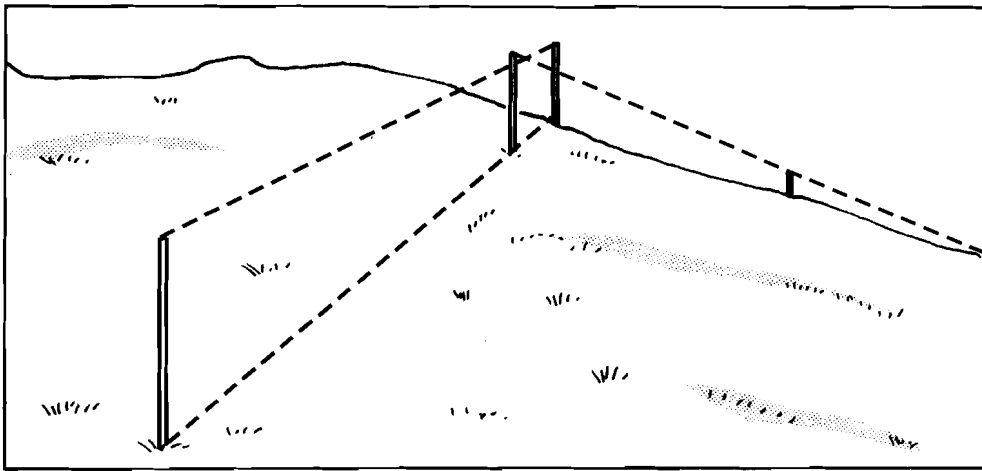
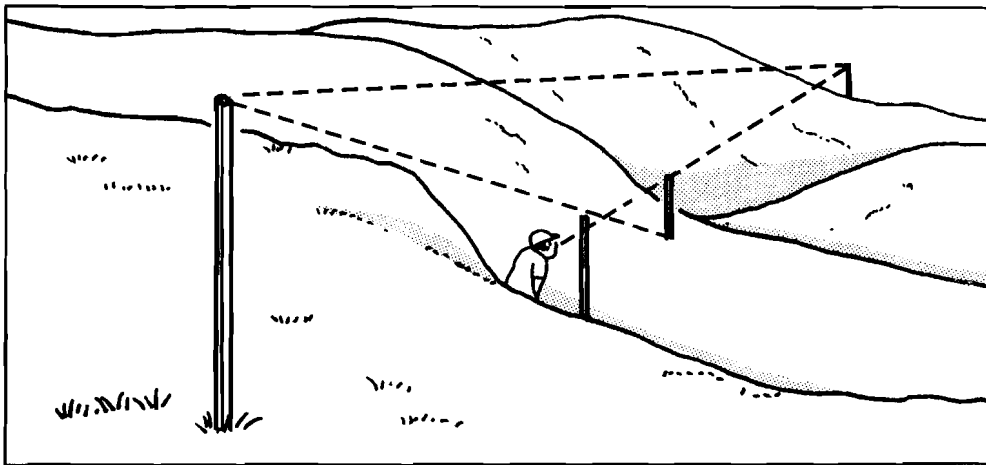
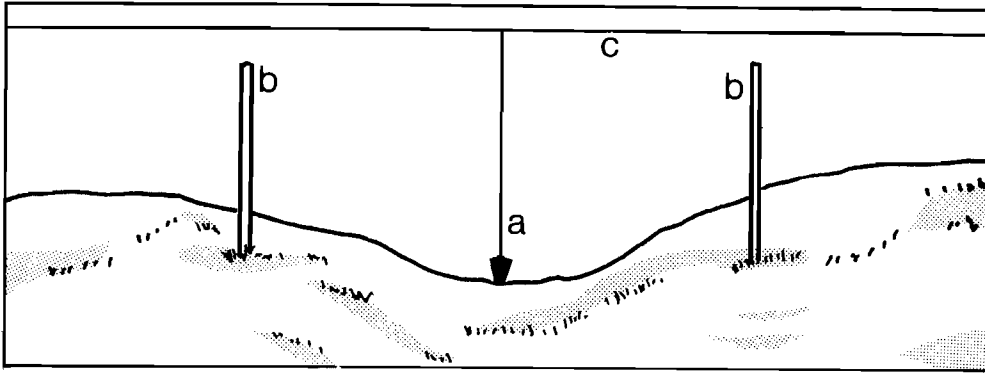

Fig. 16 Sighting a fenceline over rises.
Fig. 17 Sighting a fenceline through dips.
Fig. 20 Use of plumb bob for locating post position in dips: (a) plumb bob, (b) sighting pole, and (c) guide wire.
Rises or dips in the sighting line require the use of special techniques. For a rise, set two sighting poles about 3 m apart at the top of the rise, so that both can be seen from either end of the fence (Fig. 16). When crossing a dip, place two poles and align these by sighting from the highest point on both sides of the dip (Fig. 17).
5. Near the sighting poles in each dip, mark the locations for dip posts either by using a plumb bob (Fig. 20) if you can reach the guide wire, or by sighting using the sighting poles (Fig. 17).